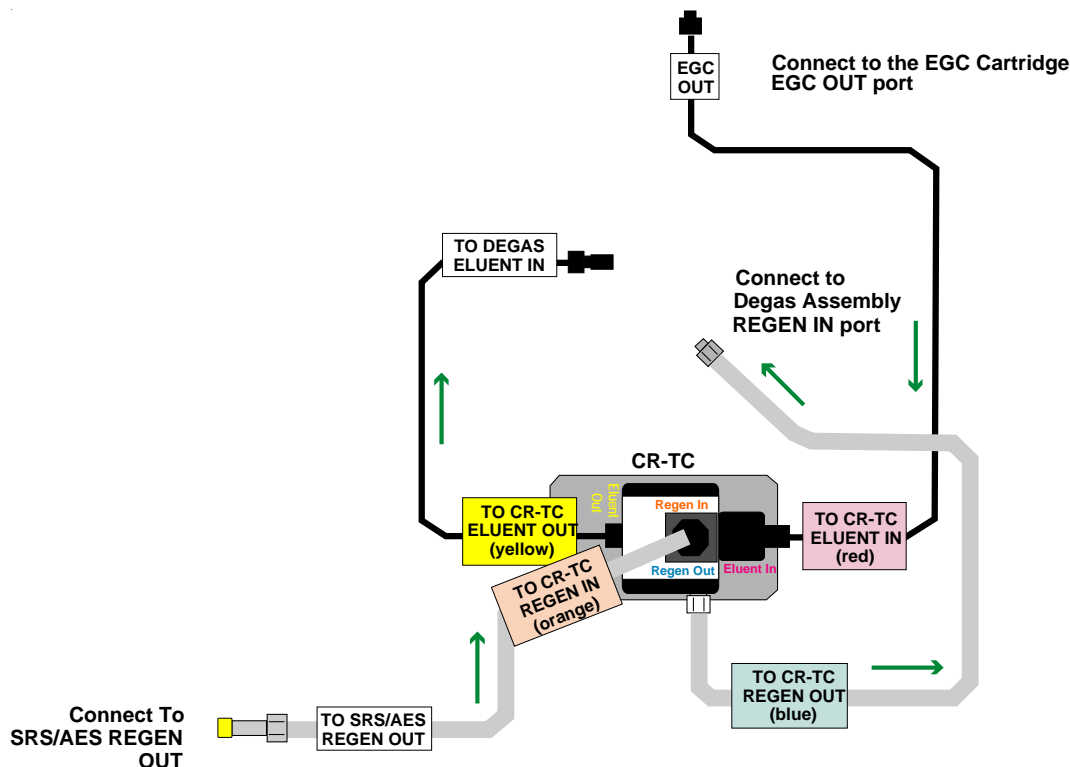

Figure 25
- A. Verify that the tubing with the Red label (**TO CR-TC ELUENT IN**) is connected to the **Eluent In** port of the CR-TC. See Figure 25.
- B. Verify that the other end of this tubing with the White label (**EGC OUT**) is connected to the **OUTLET** port of the EGC Cartridge. See Figure 25.
- C. Verify that the tubing with the Yellow label (**TO CR-TC ELUENT OUT**) is connected to the CR-TC **Eluent Out** port. See Figure 25.
- D. Connect other end of this tubing with the White label (**TO DEGAS ELUENT IN**) to the **ELUENT IN** port on the EG40 Degas Assembly. (Note that this port may be labeled **DEGAS IN** on older EG40 Degas Assemblies.) See Figure 25.
- E. Verify that the tubing with the Orange label (**TO CR-TC REGEN-IN**) is connected to the CR-TC **Regen In** port. See Figure 25.
- F. Connect the other end of this tubing with the White label (**TO SRS/AES, REGEN OUT**) to the SRS or AES **REGEN OUT** port. See Figure 25.
- G. Verify that the tubing with the Blue label (**TO CR-TC REGEN-OUT**) is connected to the CR-TC **Regen Out** port. See Figure 25.
- H. Connect the other end of this tubing with the White label (**TO DEGAS REGEN IN**) to the **REGEN IN** port of the degas assembly. (This degas port may be labeled **SRS WASTE IN** on older EG40 Degas Assemblies.) See Figure 25.